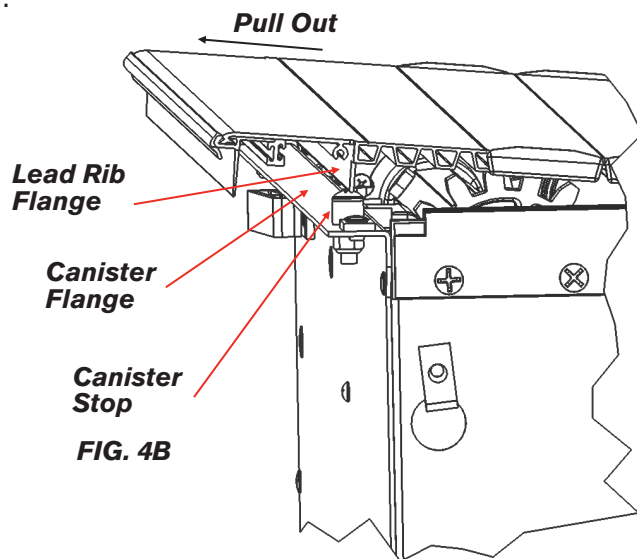
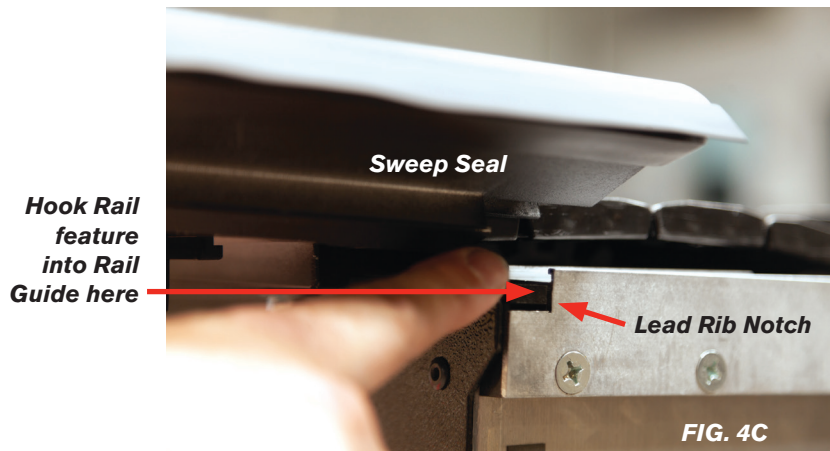

FIG. 4B
FIG. 4C
- First, make sure that the Lead Rib Flange is in pulled toward the tailgate enough to clear the Canister Flange and Canister Stop (FIG 4B).
Figure 4B shows that the lead rib needs to be pulled out toward the tail gate. Now hook the rail into the rail guide and roll it down making sure to not get the sweep seal folded back into the rail (FIG 4C).